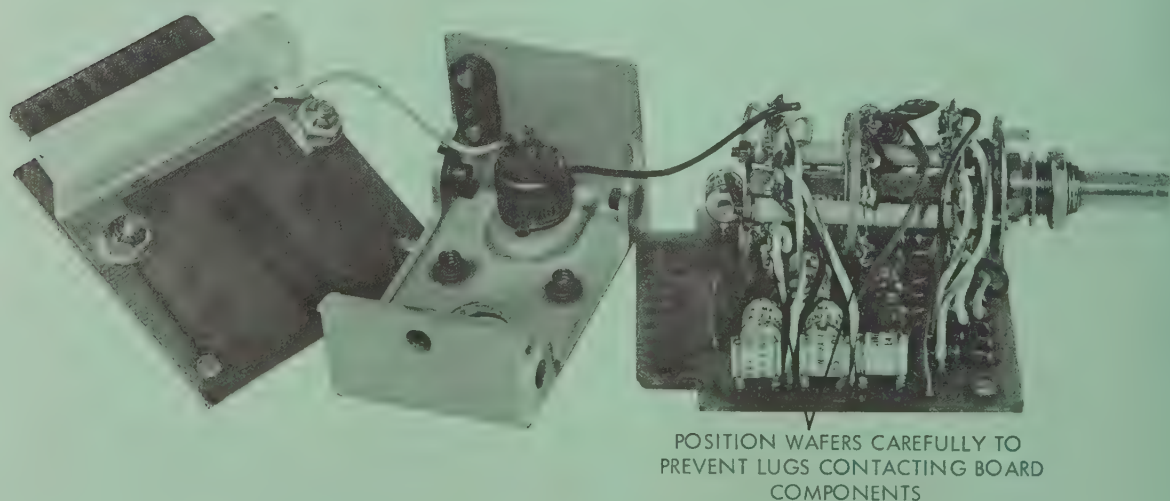

Figure A4-4. Switch Placement for Reassembly, Showing Precautions
- d. To obtain additional space in which to work while inserting replacement components, the switch may be gently pulled away from the board to the extent allowed by the length and flexibility of attached leads. When moving the switch back into place, however, be certain that no lugs are touching uninsulated parts of the circuit or components. See Figure A4-4.